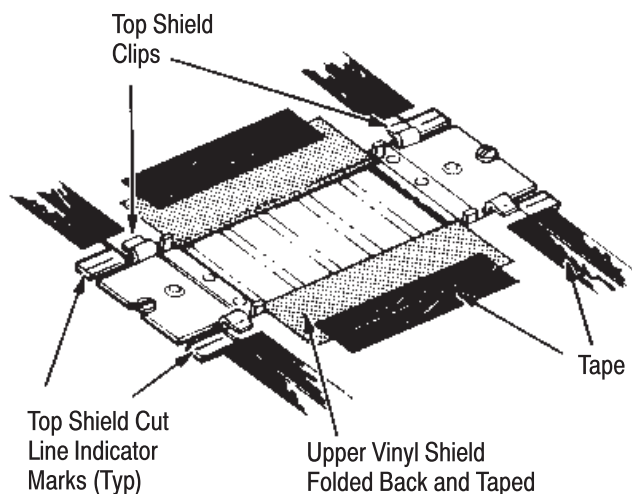

Figure 5
6. Lay top shield. See Figure 5.